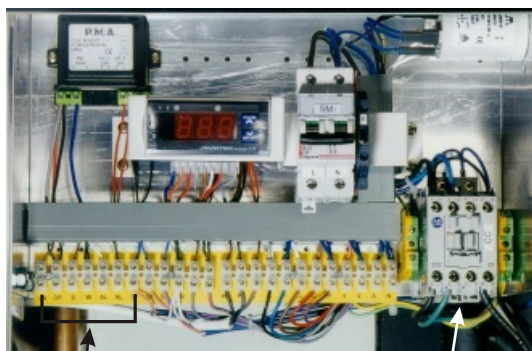

Figure 10
- Connect the cable to the main switch terminals and make sure that the connections are properly tightened. The connections for cable and common are clearly indicated on the unit's electrical panel. (see figure 10, and the wiring diagram that is placed behind the access door).